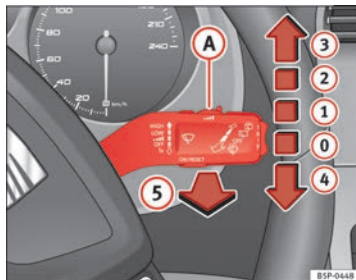

Fig. 83 Windscreen wiper and windscreen wash lever
The windscreen wiper lever ⇒ Fig. 83 has the following positions:
- The next speed down will automatically be selected if wiper speed ② ⇒ Fig. 83 or ③ is selected when the vehicle stops. The set speed will be resumed when the vehicle starts again